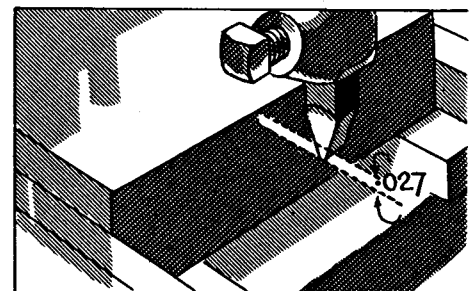

FIG. 476
12. Move the tool down for a cut of $.027$ " (Fig. 476).